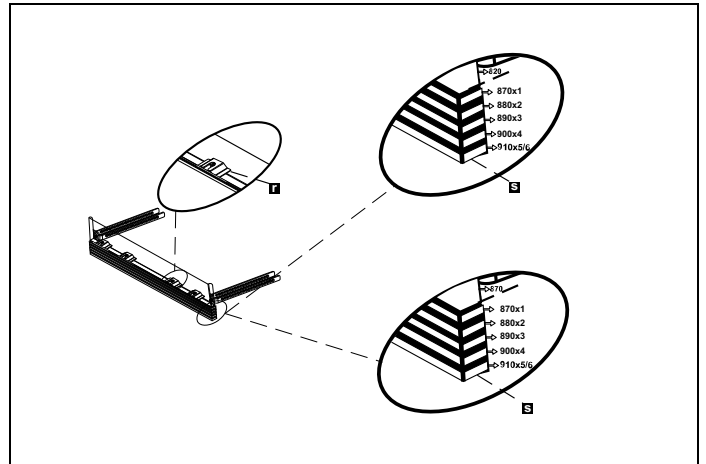

Fig. 22
- 3) As shown in Fig. 22, the cylindrical feet of the adjustable toe kick are attached to the toe kick fixing metal parts and inserted through the cavity of the part.